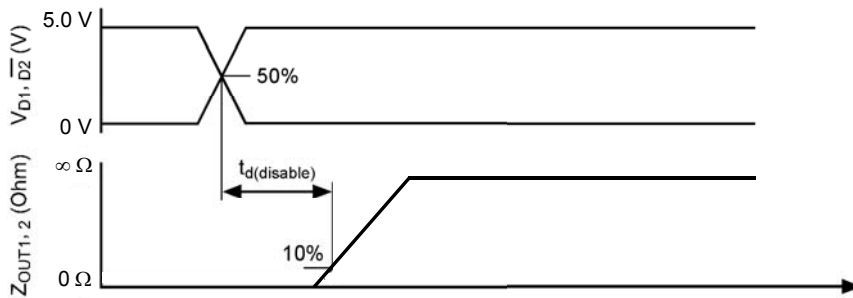

Figure 3. Disable Delay Time
20. Output Delay is the time duration from the midpoint of the IN1 or IN2 input signal to the 10% or 90% point (dependent on the transition direction) of the OUT1 or OUT2 signal. If the output is transitioning HIGH-to-LOW, the delay is from the midpoint of the input signal to the 90% point of the output response signal. If the output is transitioning LOW-to-HIGH, the delay is from the midpoint of the input signal to the 10% point of the output response signal. See Figure 3.
23. Disable Delay Time is the time duration from the midpoint of the D (disable) input signal to 10% of the output tristate response. See Figure 3.